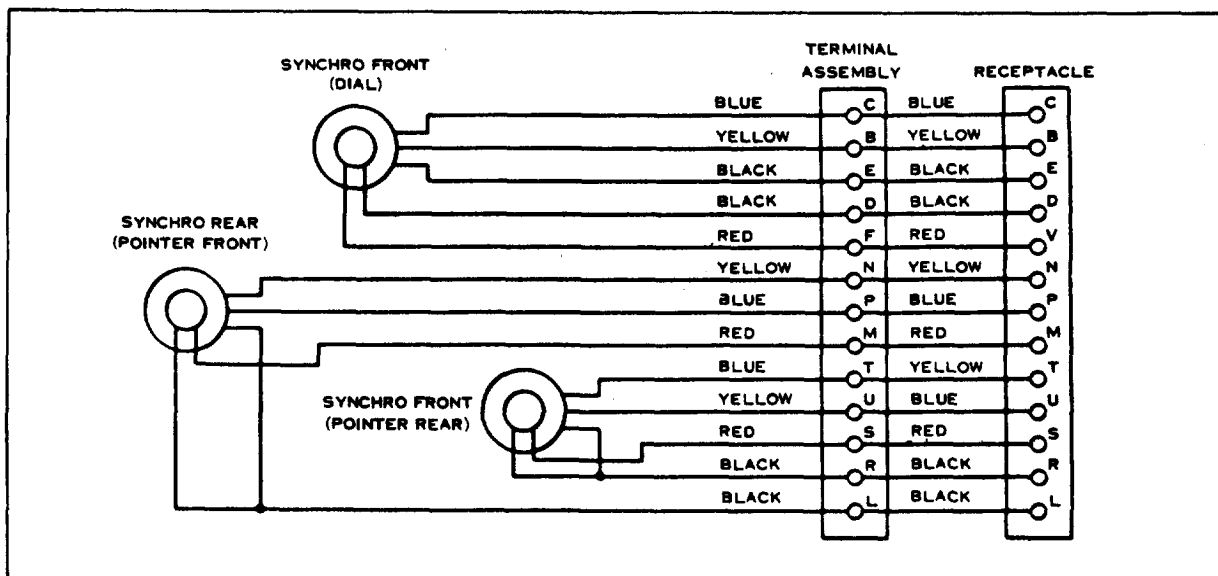

Figure 2-7. Internal Wiring Diagram
c. Check mechanism assembly (36) in cover and glass assembly (25) for proper distance of the hands from the cover glass. Place a fiber spacer 1/32-inch thick and of slightly smaller diameter than the cover glass in the cover and glass assembly. Push the mechanism assembly into the cover and glass assembly in a straight line so that front hand assembly (32) rests against the fiber spacer. Select shims (24) so that when they are placed on terminal assembly (21), the terminal assembly will rest tightly against the rear end of the glass assembly. The shims are 0.015-inch and 0.047-inch thick, respectively. When the correct shims have been selected, remove the terminal and mechanism assemblies, and fiber spacer from the cover and glass assembly.
d. Resolder the synchro leads to terminal assembly (21) as shown in figure 2-7. Secure the terminal assembly to mechanism assembly (36, figure 2-1) with the shims (24) selected in paragraph c, three lock washers (23) and three nuts (22).
e. Secure electrical connector receptacle (6) to ptug
support plate (14) with four lock washers (8) and four screws (7). Place thirteen pieces of tubing (9) on four black insulated wires (10), three blue insulated wires (11), three red insulated wires (12), and three yellow insulated wires (13). Refer to figure 2-7 and resolder the thirteen wires to terminal assembly (21, figure 2-1) and the electrical connector receptacle. Push the 13 pieces of tubing down over the receptacle terminals.
f. Calibrate and set electrical zero for dial (34) and the front and rear hand assemblies (32 and 33) as Instructed in paragraph 3-6 in Section III.
g. Place bezel (18) face down on the bench. Select a gasket (19) of sufficient thickness so that cover and glass assembly (25) will be properly seated in the bezel. Place the gasket in the bezel, and set the cover and glass assembly in the bezel. Slide bezel ring (15) onto the cover and glass assembly and secure it to the bezel with eight lock washers (17) and eight screws (16).
h. Press cover and glass assembly (25) down over mechanism assembly (36) until terminal assembly (21) rests tightly on the open end of the cover and glass assembly. Lay a length of thin wire solder with a melting range of 181°C to 213°C (357°F to 416°F) around the joint of the terminal assembly and the cover and glass assembly where seal strip (20) is to be placed. Progressively colder the seal strip into place around the juncture of the cover and glass assembly and the terminal assembly, keeping the seal strip as flat as possible. When finished, allow instrument to cool, and clean off any roughness or excess solder.
i. Temporarily fasten end cover (5) and nameplate (2) to the instrument with three lock washers (4) and three screws (3), and place plastic cap nut (1) on electrical connector receptacle (6).